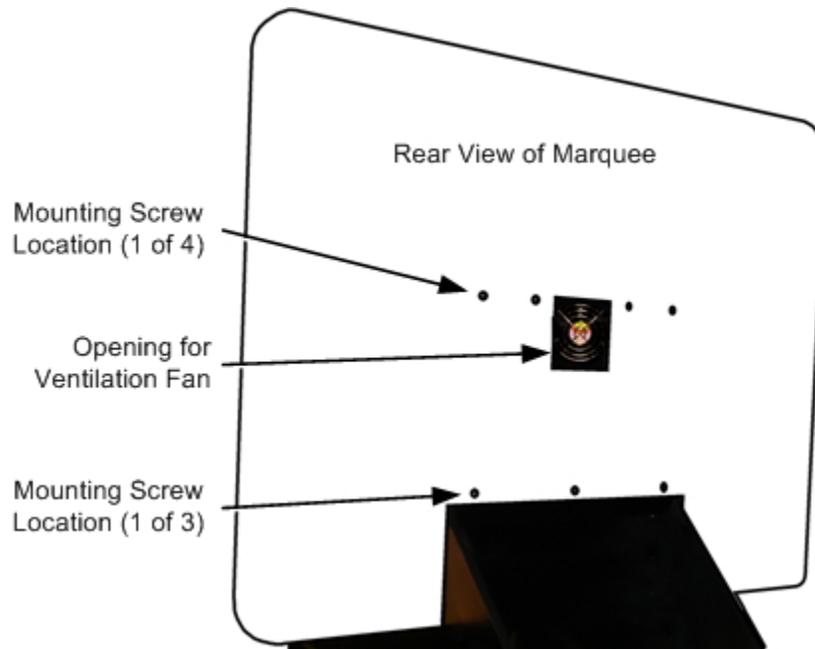

Figure 17. Rear View of Sintra Marquee
Refer to Figure 17 and note the seven (7) mounting screw locations shown by circles. Do the following steps:
1. If you wish to replace the Logo only, remove the three (3) ¼-20 x 2” screws with two fender washers and two plastic spacers that secure the logo to the marquee. Remove the Logo and use the hardware to install the new Logo.
3. To replace the entire marquee assembly, have a second person support the assembly while you remove the seven (7)  $\frac{1}{4}$ -20 x  $\frac{3}{4}$ " mounting screws with flat washers shown by the circles in Figure 17.